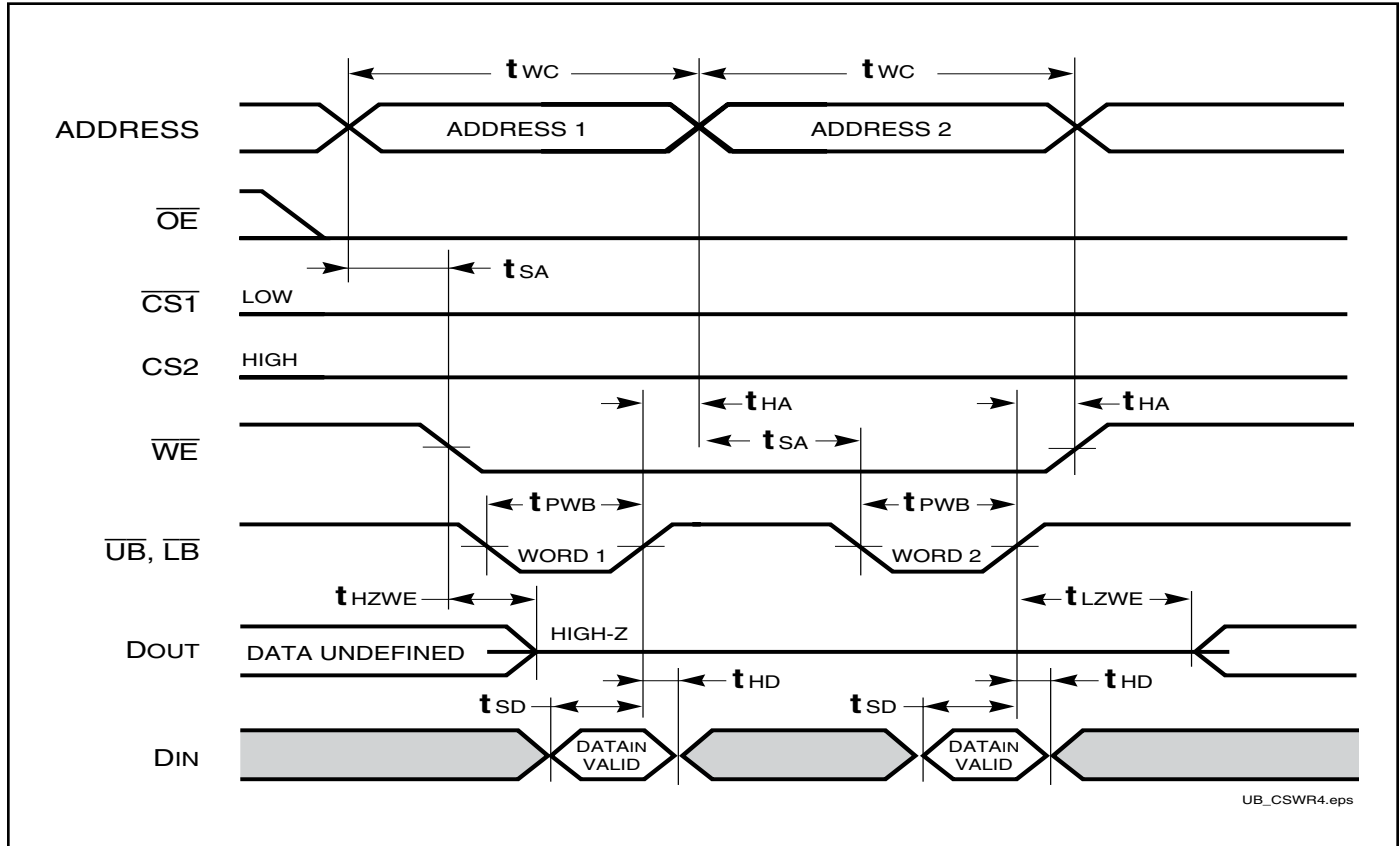
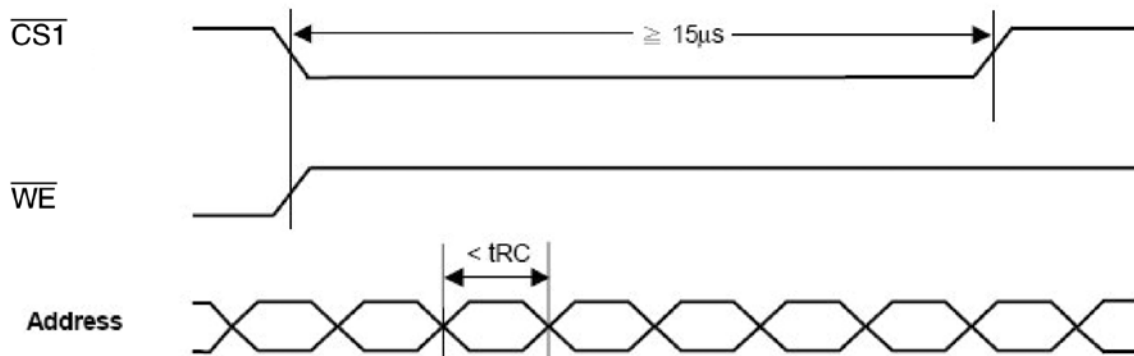

Figure 1: Avoidable Timing
Figure 2:
1. Test conditions assume signal transition times of 5 ns or less, timing reference levels of 0.9V/1.5V, input pulse levels of 0.4 to VDD-0.2V/0.4V to VDD-0.3V and output loading specified in Figure 1.
3. Tested with the load in Figure 2. Transition is measured  $\pm 100$  mV from steady-state voltage. Not 100% tested.
Please avoid address change for less than  $t_{RC}$  during the cycle time longer than  $15\mu s$  (Figure 1). Figure 2 & 3 provide work around solution for this issue.